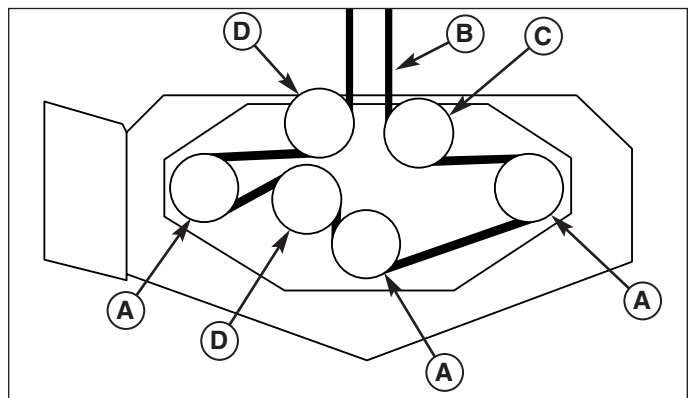

Figure 38. Mower PTO Belt Routing
5. Remove the old belt and replace with a new one. Make sure the V-side of the belt runs in the pulley grooves (Figure 38).